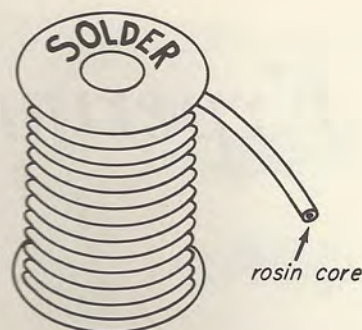

Fig. 1-1
**Flux.** The surface of a metal tends to combine with the oxygen of the air to form an *oxide*. The rust that forms on iron and steel is such an oxide. So is the white coating that appears on aluminum pots and pans. Metals, when heated, tend to form such oxides very rapidly. To prevent oxidation, the solder used by servicemen usually has a core of rosin, as shown in Fig. 1-1. This rosin is called *flux*. The flux melts and forms a thin coating that protects the metals of the joint from oxidizing while they are being heated.